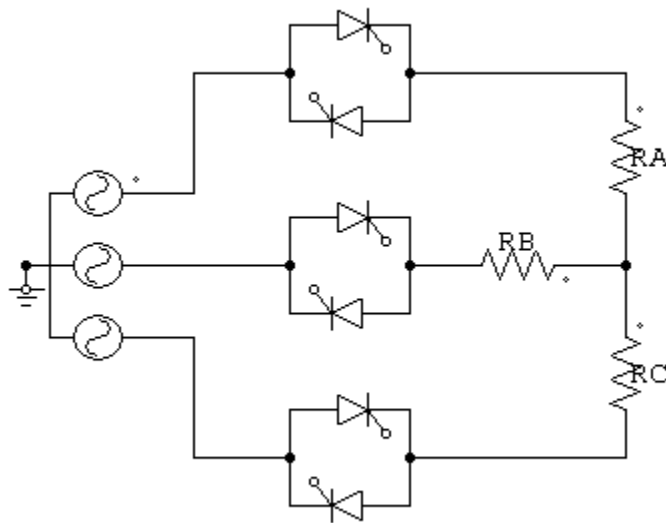

Figure 4: Full wave ac controller
4. The three phase full wave ac controller is shown in Figure 4 supplies a wye-connected resistive load of $R=10\Omega$ and the line to line input voltage is 208 V (rms), 60 Hz. If the delay angle for the balance system is $\alpha=\pi/3$, determine: